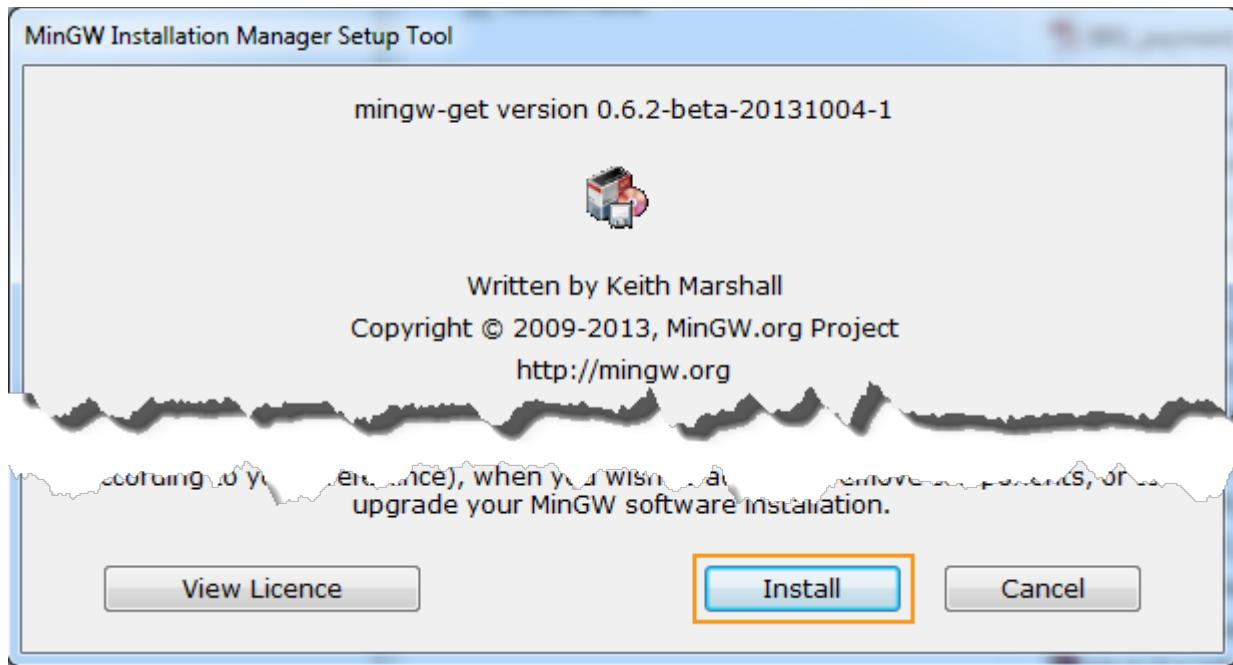

Figure 34. MinGW Installation Manager Setup Tool
- 2) Launch the installer, and click **Install** (see Figure 34).